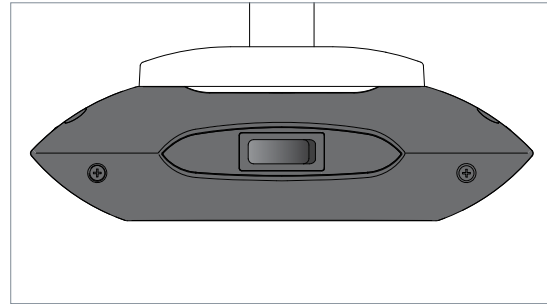

Fig. 15: Button.
- ▶ Press the button, see Fig. 15.
- ▶ Press the button and keep it depressed, see Fig. 15.